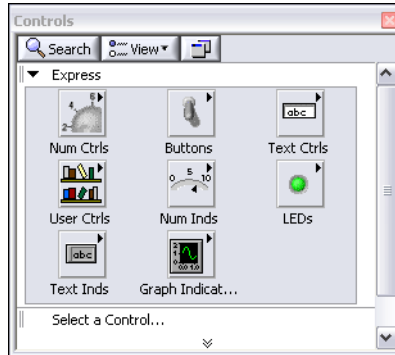

Figure 1-4. Controls Palette
1. If the **Controls** palette, shown in Figure 1-4, is not visible on the front panel, select **View»Controls Palette**.
2. If you are a new LabVIEW user, the **Controls** palette opens with the **Express** palette, shown in Figure 1-4, visible by default. If you do not see the **Express** palette, click **Express** on the **Controls** palette to display the **Express** palette.